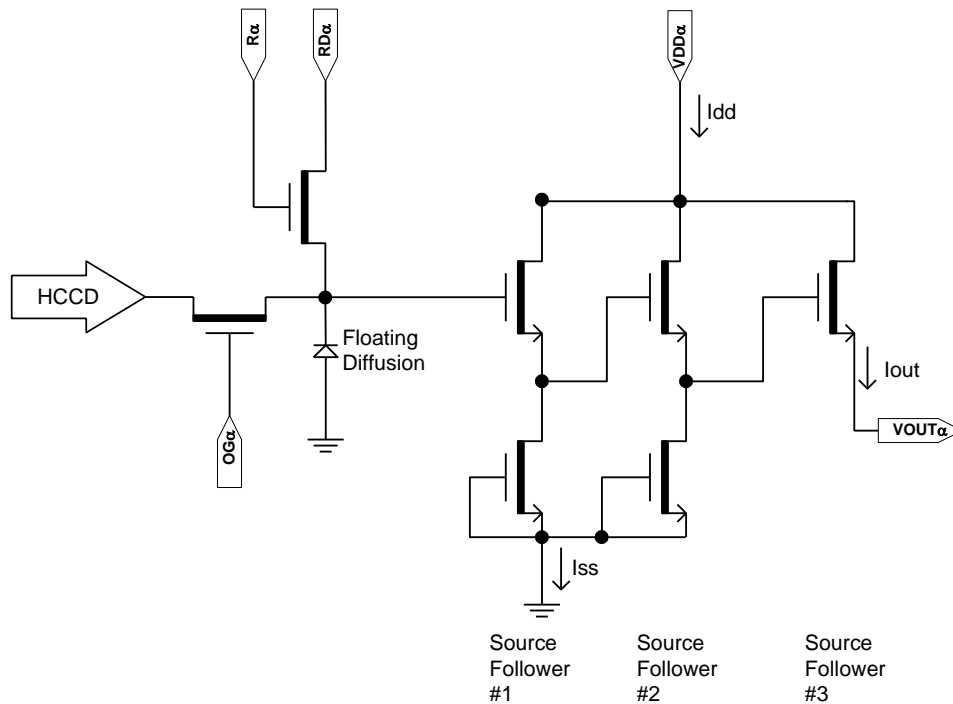

Figure 13: Output Amplifier
2. The maximum DC current is for one output. I_{dd} = I_{out} + I_{ss}. See Figure 13.